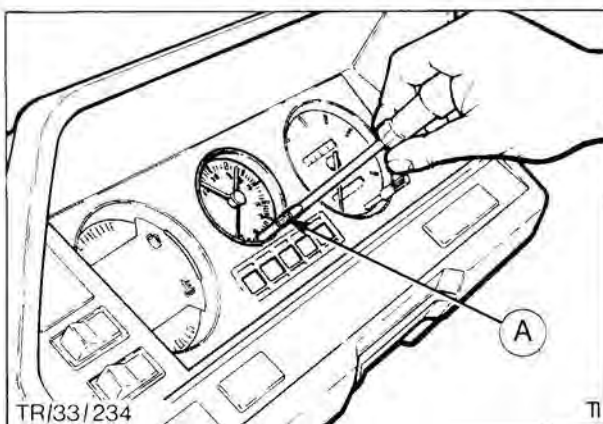

Fig. 58. Removing clock knob (where fitted)
3. On variants fitted with a clock mounted in instrument cluster unscrew the clock adjuster knob and remove, Fig. 58.